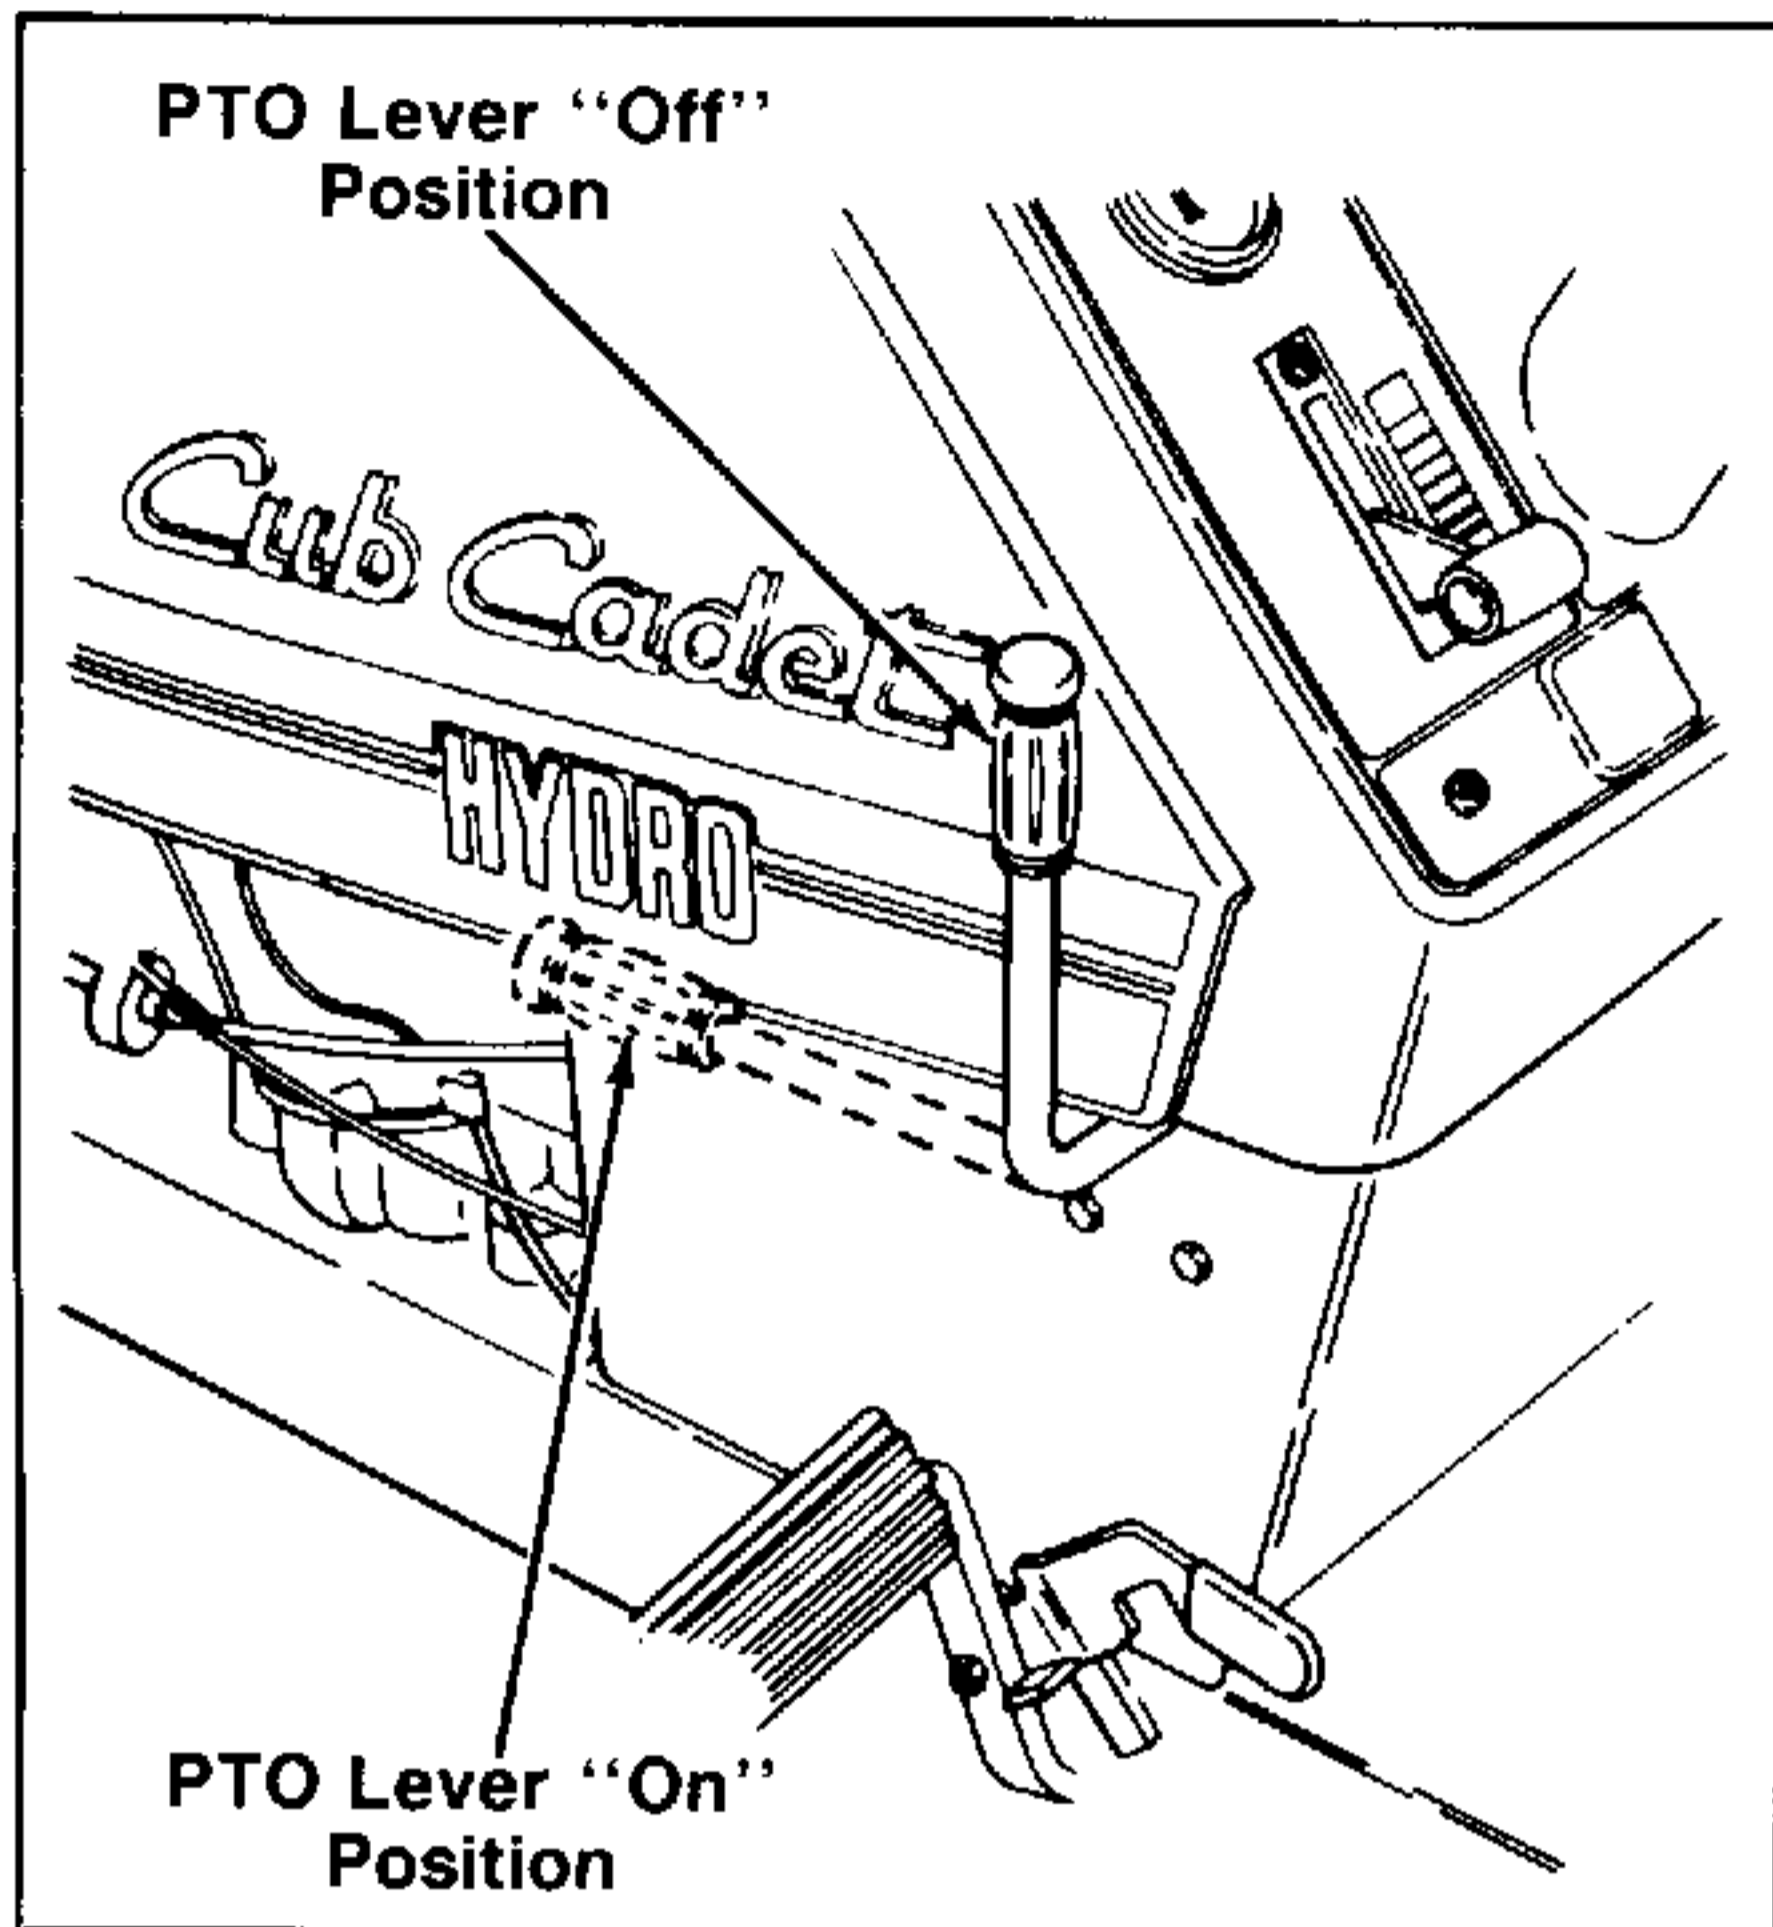

FIGURE 16.
- Place the PTO engagement lever in the "ON" position. Refer to figure 16.
- Place the PTO engagement lever in the "OFF" position. Refer to figure 16.